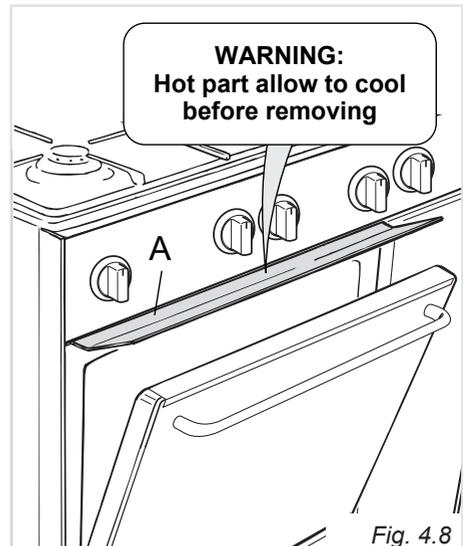

Fig. 4.8
- Fit the heat deflector “A” (fig. 4.8).
**Very important:** The grill must always be used with the oven door slightly open and with shield “A” mounted (Fig. 4.8).
Mount shield “A” (fig. 4.8) which serves to protect the control panel from the heat.
**Very important: The rotisserie must always be used with the oven door slightly open and with shield "A" mounted (Fig. 4.8).**